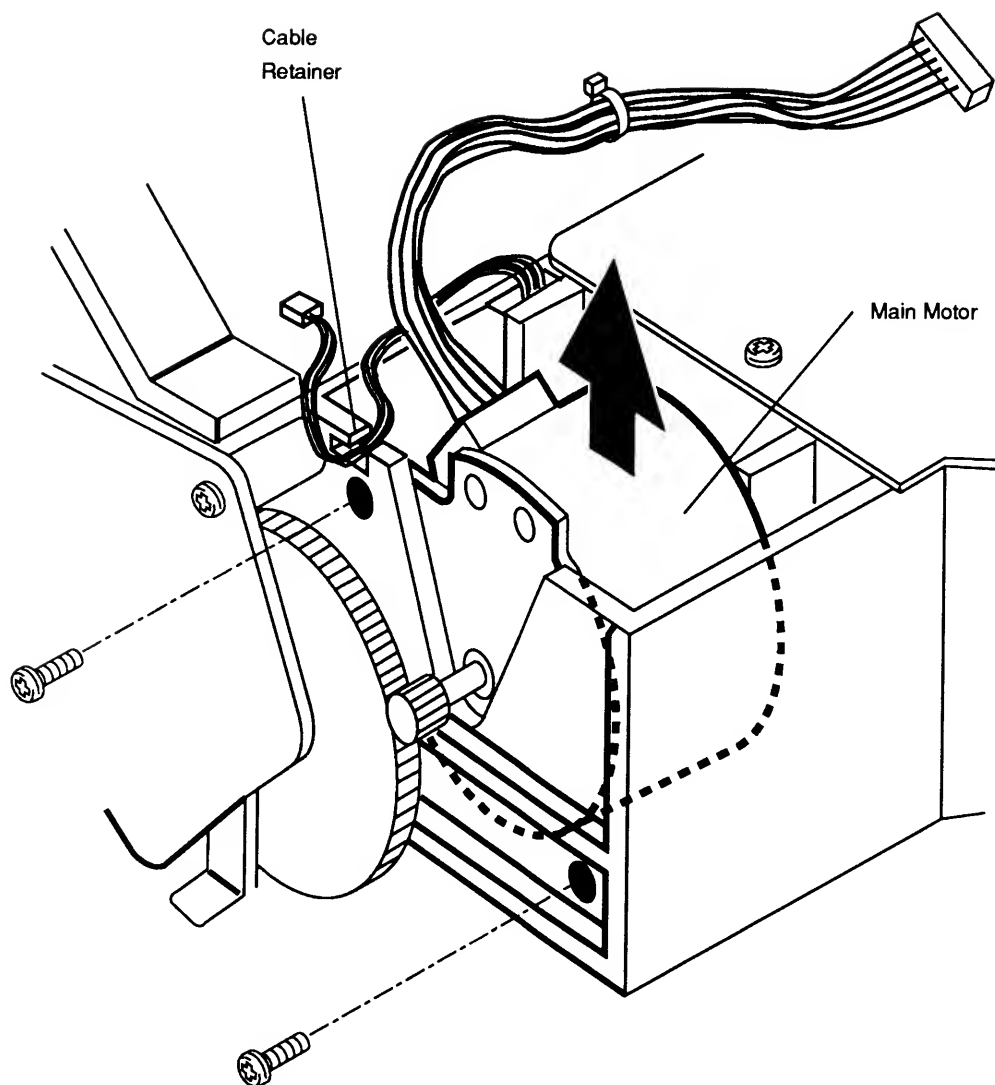

Figure 2-37 Main Motor
3. Locate the main motor and remove the two silver-colored screws that secure the main motor to the printer chassis (**Figure 2-37**).
5. To remove the main motor from the printer, lift the motor straight up (**Figure 2-37**).